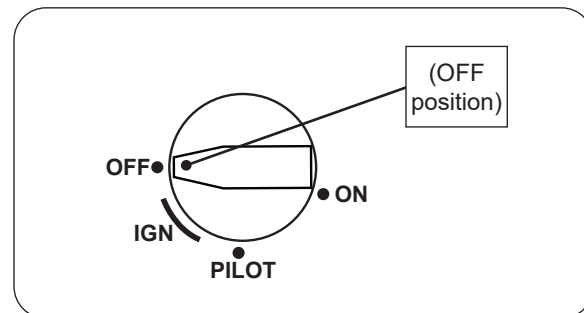

Fig. 30-2 Pilot shut down
2. Locate the valve on the side of the unit. Push in the ignition knob slightly and turn clockwise to OFF (see Fig. 30-2).
Push in the ignition knob slightly and turn clockwise to OFF. Do not force. See Fig. 30-2.